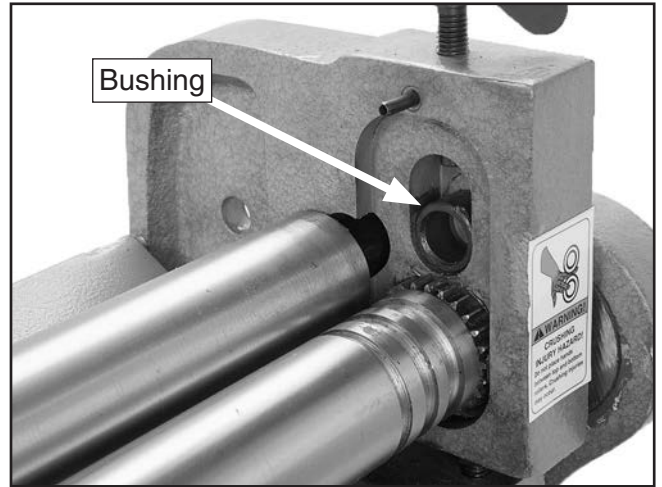

Figure 50. Right bushing removal.
3. Using mineral spirits and a rag, wipe all grease from the bushings, roller journals, gear teeth, and the bushing pockets (**Figure 50**).